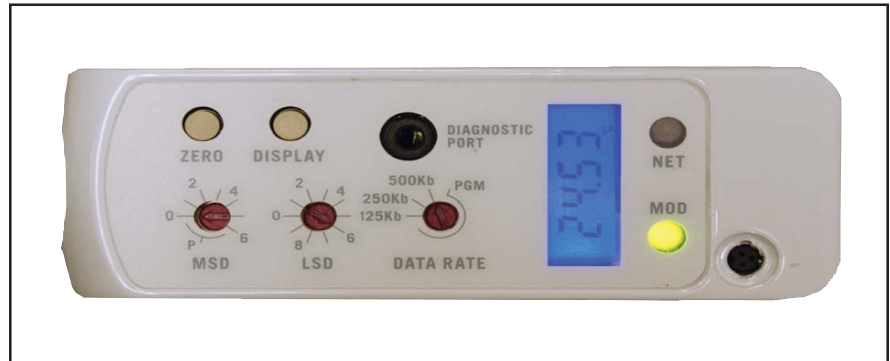

Figure 2-8 Display Set to %FS
2. Looking at the top of the GF100 Series, press the "Display" button until the LCD display label is "%FS" as shown in Figure 2-8. Three button depressions from the MACID label display.